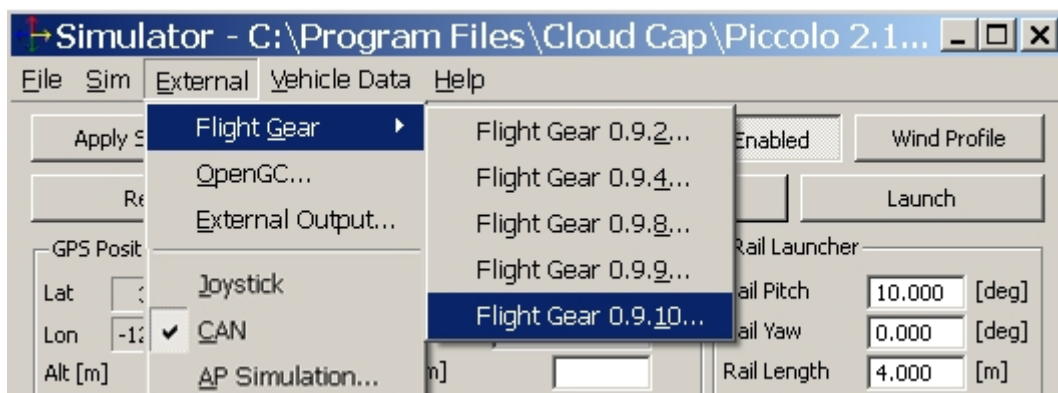

Figure 34 - Flight Gear
1. If you wish to use FlightGear for visualization, open the **External** menu and select the latest version of FlightGear that is on your PC (**Figure 34**)